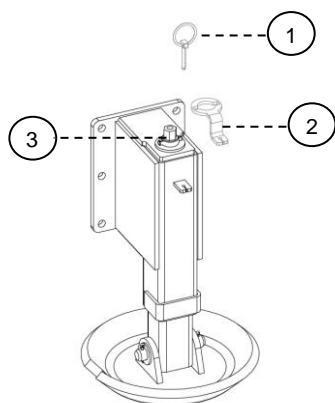
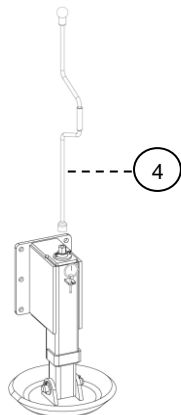
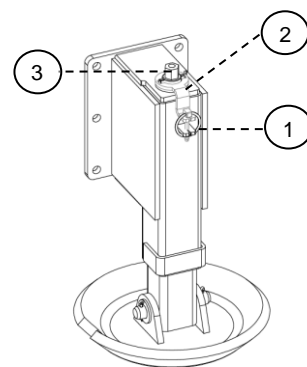

Figure 8
Figure 9
Figure 10
The VPX folding snow plough is equipped with two support plates, which can be adjusted using a crank (size NV19) to the desired position. Remove the ring pin (1) and lock plate (2) from the adjustment screw (3) before carrying out height adjustment – see Figure 8. Use the crank (4) for height adjustment $360^\circ = 5 \text{ mm}$ – see Figure 9. Restore the lock plate (2) and cotter pin (1) to lock the adjustment screw (3) following height adjustment – see Figure 10.